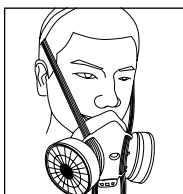
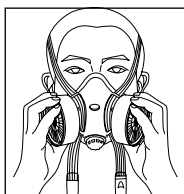

Fig. 3
Fig. 4
2. Loosen the elastic straps. Place the cradle suspension over the crown of your head, see Fig.3 & Fig.4.